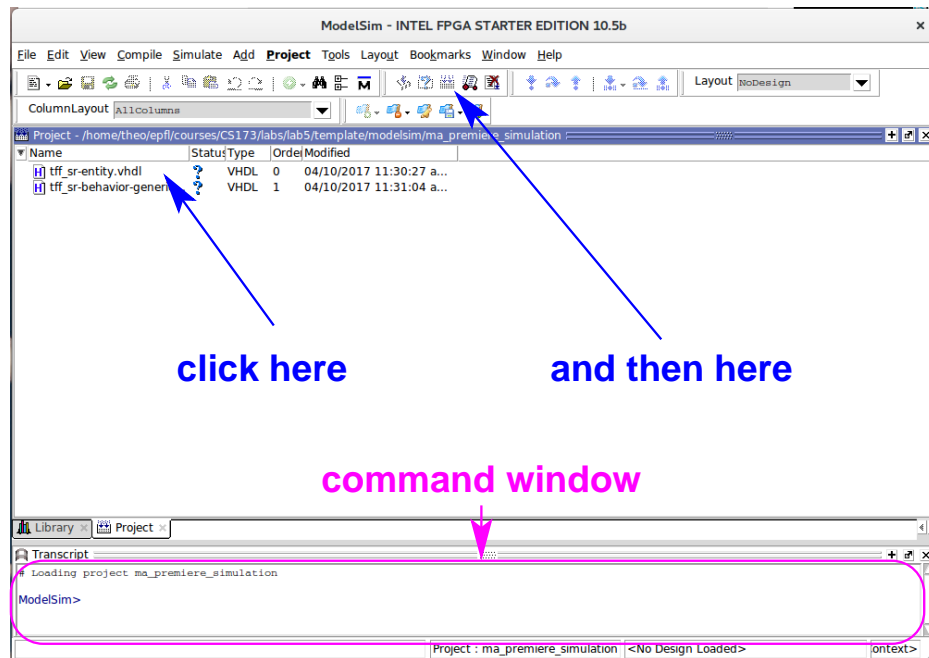

Figure 4: The main window in modelsim.
6. Close the window shown in figure 3b by clicking on **close**. The main window should now look like figure 4.
7. Now, click first on `tff_sr-entity.vhdl` and then on the shown symbol in the sequence as indicated in figure 4. After this sequence the command window should not list any errors.
From now on we are going to use the command line of modelsim in its **command window** (Transcript window in figure 4).
Change in the file `tff_sf-behaviour-generic.vhdl` the line where the `XOR` is described. Replace the `XOR`-gate by an `OR`-gate. Save the file. Start modelsim. Perform the sequence shown in figure 4. Start an automated simulation with the command: `do ../scripts/tff_sr.do`